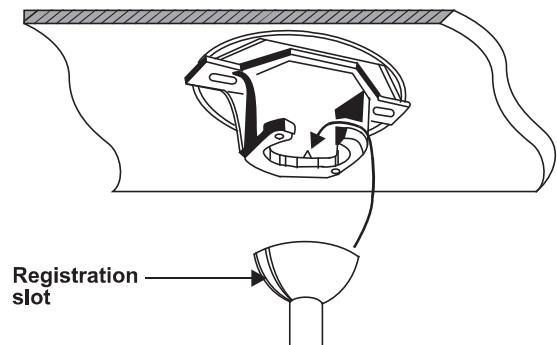

Figure 10
10. Now lift the motor assembly (fan with blades) into position and place the hanger ball into the hanger bracket. Rotate down rod until the "Check Tab" has dropped into the "Registration Slot" and the down rod and ball assembly seat firmly. The down rod and ball assembly should not rotate if this is done correctly. (Fig. 10)